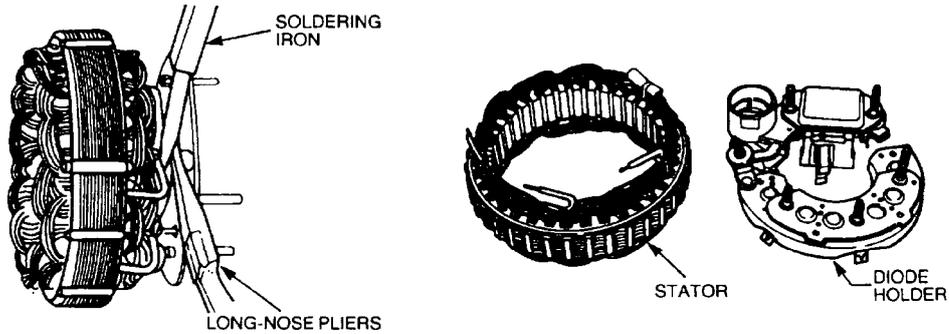

**Figure 290 Removing the Diode Assembly**
- (5) Remove the nut retaining the B-terminal to the rear cover (Figure 290). Remove the nuts retaining the diode holder, taking note of the insulating washer positions and remove the stator and diode assembly from the housing.